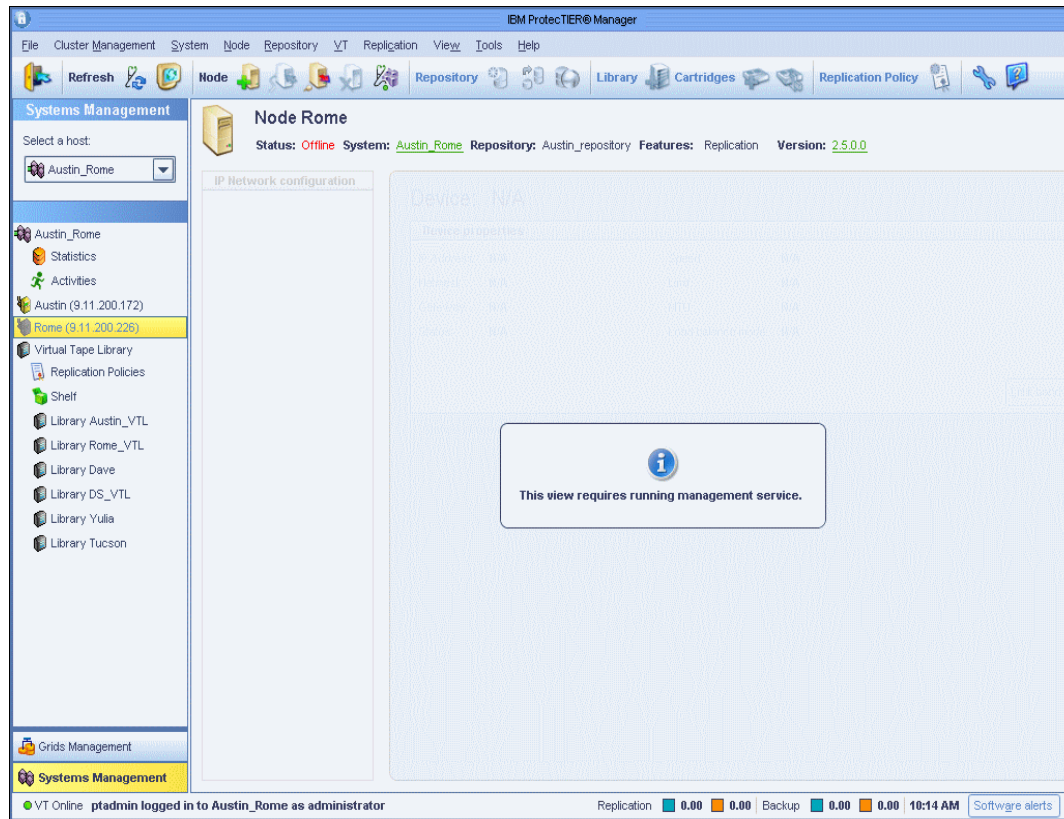

Figure 10-84 Remove cluster member select stopped node window
- Verify that the selected node is offline (in the Nodes pane, the node appears in grey). In the Nodes pane, select the stopped node (Figure 10-84).